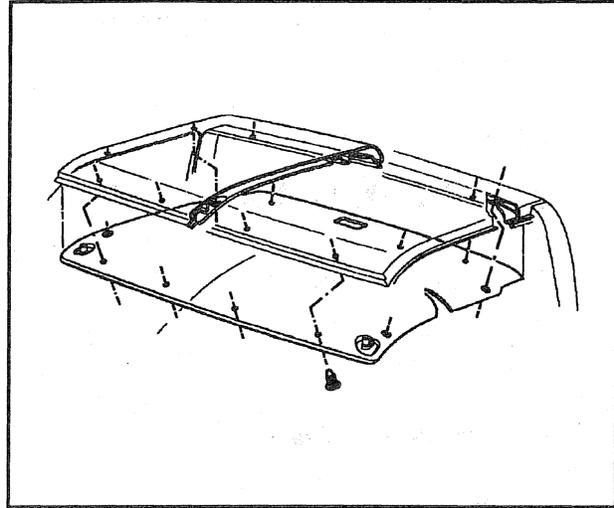

Figure 23—Headliner (Pickup)
↔ Remove or Disconnect (Figures 23, 24, and 25)
**↔ Install or Connect (Figures 23, 24, and 25)**